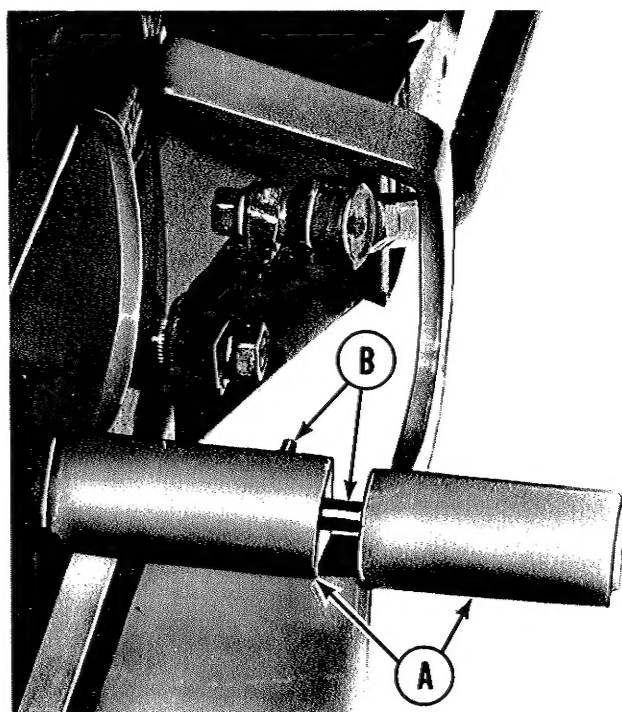

Figure 4. Brake pedals and locking pin on right side of tractor.
BRAKES: (Figure 4, item A) **CAUTION: THE CLUTCH PEDAL MUST BE DEPRESSED TO GET EFFECTIVE BRAKING ACTION.** The 4040 tractor is equipped with individual disk type rear wheel brakes. They should be applied simultaneously except when required as an aid in turning. This can be done by placing your foot half on each brake and applying pressure to both at the same time, but it is much better to lock the two brakes together by moving the sliding pin (B) located in the left brake pedal to the right through